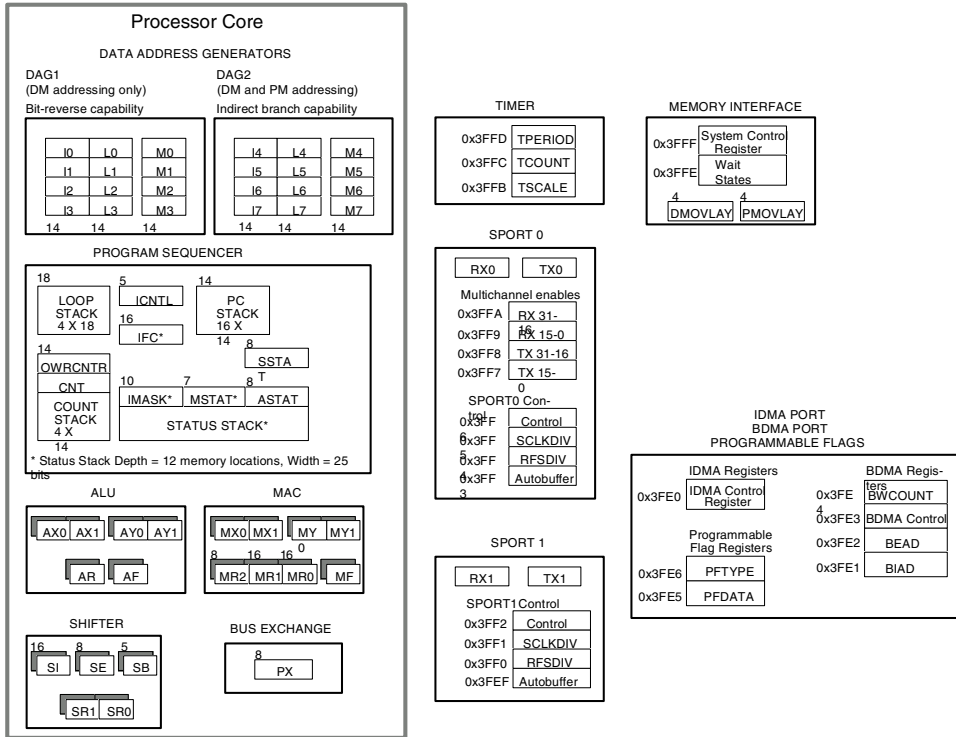

Figure 2-1. ADSP-218x DSP Registers
The ADSP-218x registers are shown in Figure 2-1. The registers are grouped by function: data address generators (DAGs), program sequencer, computational units (ALU, MAC, and shifter), bus exchange (PX), memory interface, timer, `SPORTs`, host interface, and DMA interface.
Registers in the computational units have secondary registers, shown in Figure 2-1 on page 2-3 as second set of registers behind the first set. Secondary registers are useful for single-cycle context switches. The selection of these secondary registers is controlled by a bit in the MSTAT register; the bit is set and cleared by these instructions: